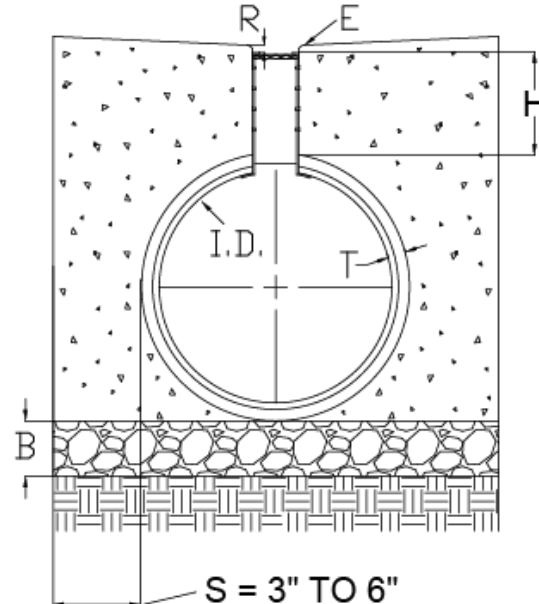

Figure 1
1. Excavate the pipe trench corresponding to the site plans (Figure 1).
- Slot riser recess (R) below the finished pavement grade (E).
- Pipe corrugation height or pipe wall thickness (T). Invert elevations are from the inside diameter (ID) and do not account for wall thickness below the flowline.
- Additional depth of any base material (B) required.